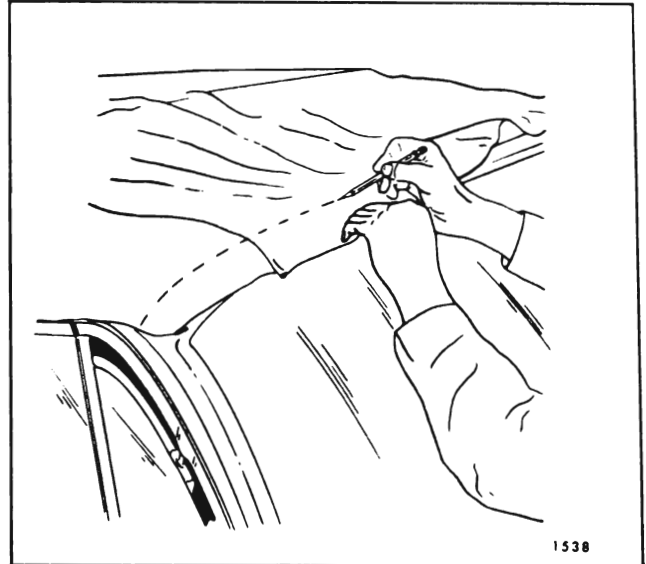

Fig. 13-28 — Marking Top Material At Front Roof Rail
48. At front roof rail, pull top trim material forward to desired tension. While maintaining tension on top trim, place a pencil mark on outer surface of trim material along forward edge of front roof rail (Fig. 13-28).